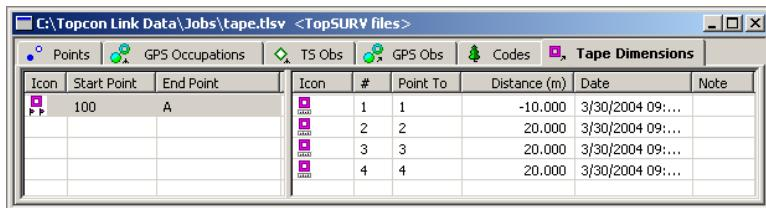

Figure 4-43. Tape Dimensions Tab
- The left panel of the *Tape Dimensions* tab (Figure 4-43 on page 4-29) shows the symbol of the start reference line, the names of the start and end points of this line.
- The right panel of the *Tape Dimensions* tab (Figure 4-43 on page 4-29) has the following default columns for tape measurements from the End point to the Start point: